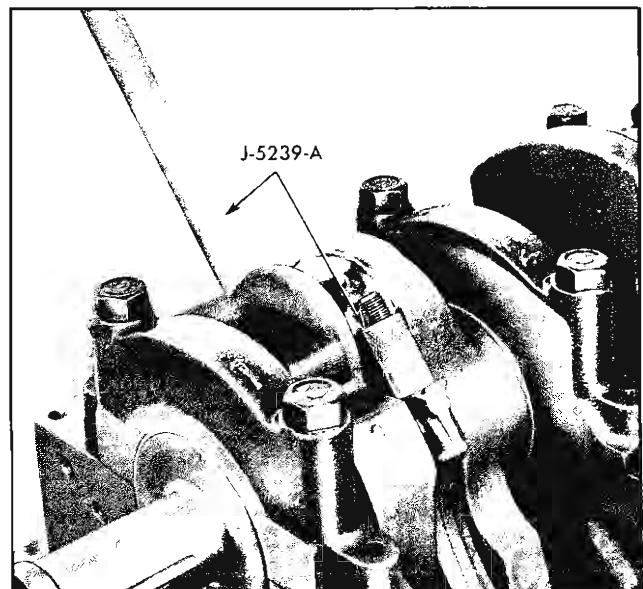

Fig. 6-58 Bolt Guide Set Installed
- Install Connecting Rod Bolt Guide Set J-5239 on connecting rod bolts (Fig. 6-58).
6. Remove bearing cap and install connecting Rod Bolt Guide Set J-5239 (Fig. 6-58).